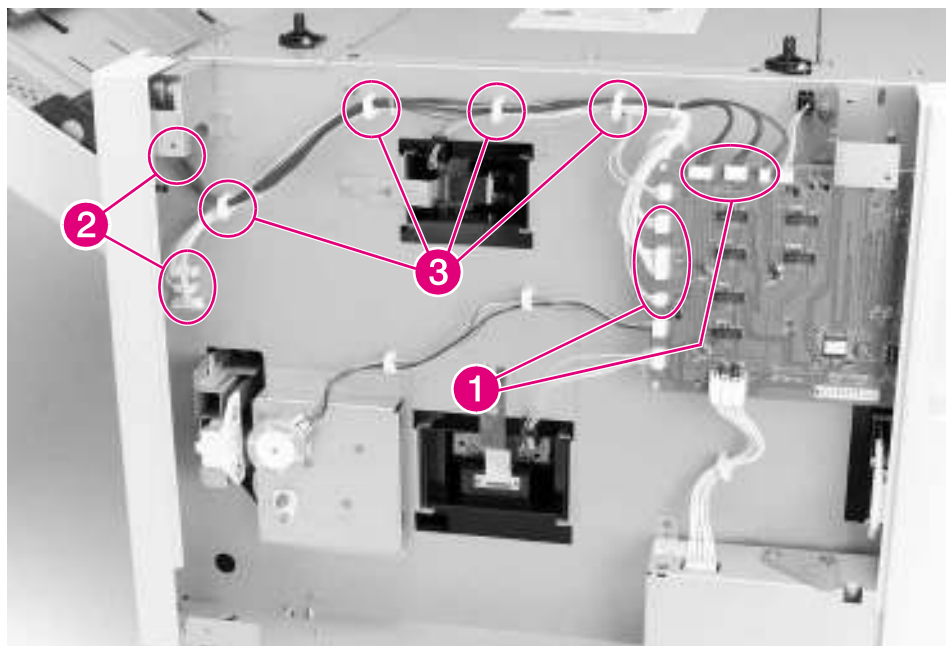

Figure 6-70 2000-sheet Input Tray Main Cable Harness
- 2** Locate and disconnect the 6 cable connectors that connect the Main Cable Harness to the Controller PCA on the 2000-sheet Input Tray (figure 6-70, callout 1).